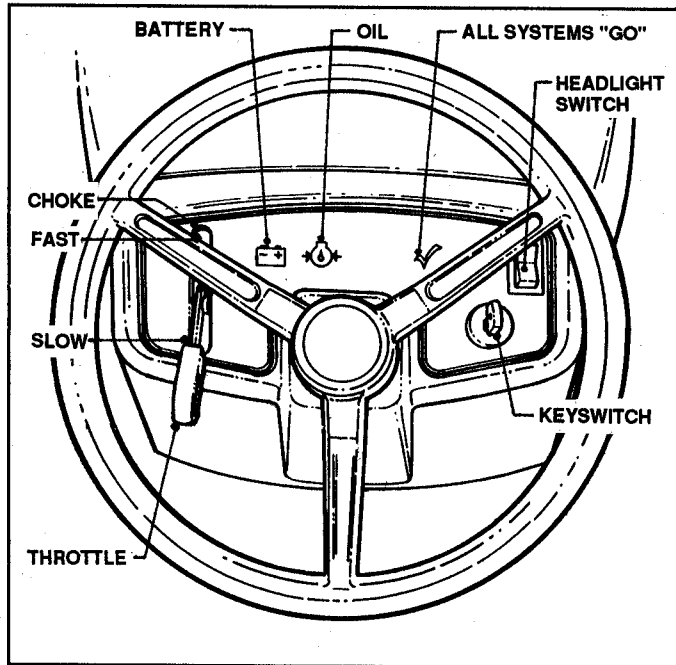

FIGURE 2
ENGINE: STOP ENGINE by turning the KEYSWITCH to "OFF". See Figure 2.
3. **CHOKE ENGINE** for cold starting by moving **THROTTLE CONTROL** to "CHOKE" position. (Little or no choking will be needed when re-starting a warm engine). Refer to Figure 2.